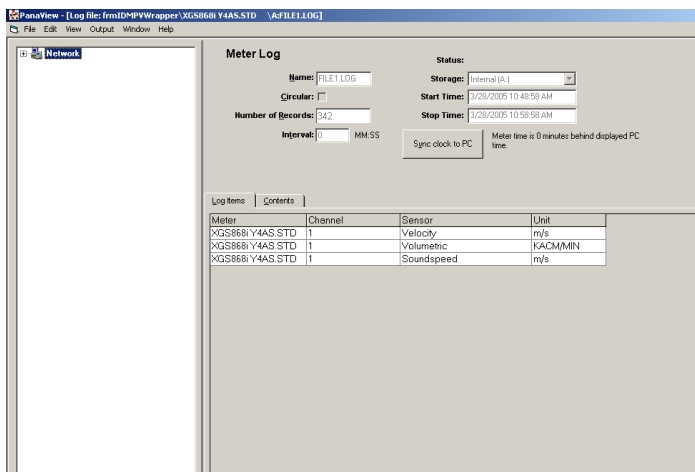

Figure 20: Data window for an individual meter log
- Double-click on the desired log. A window opens for the individual log, as shown in *Figure 20* below.
- Click on the *log items* tab (see *Figure 20* above) for a list of the parameters specified for logging.